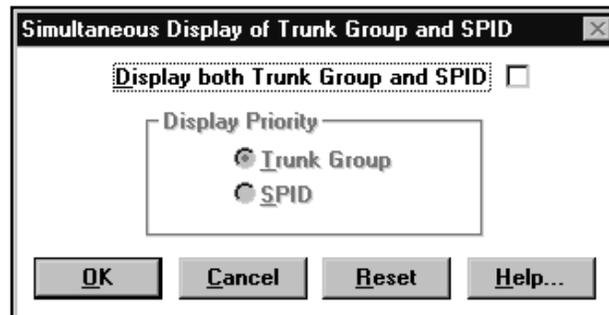

FIGURE 78. Trunk Group/SPID dialog box
1. In the configuration window, select Trunk Group/SPID. (See Figure 78.)